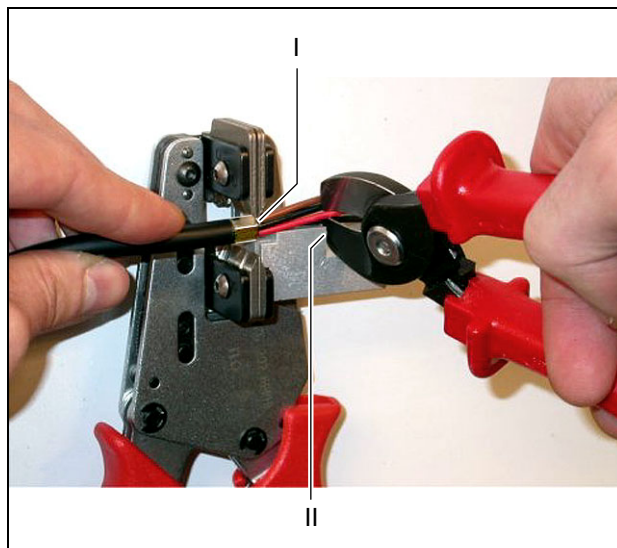

figure 22.10: Cutting a copper wire
- 8 Cut the copper wires at the required length using the cable cutter (tool 2) and the stripping tool (tool 5). To this end, position the crimping bush in position I and cut the copper wires at position II (see figure 22.10).